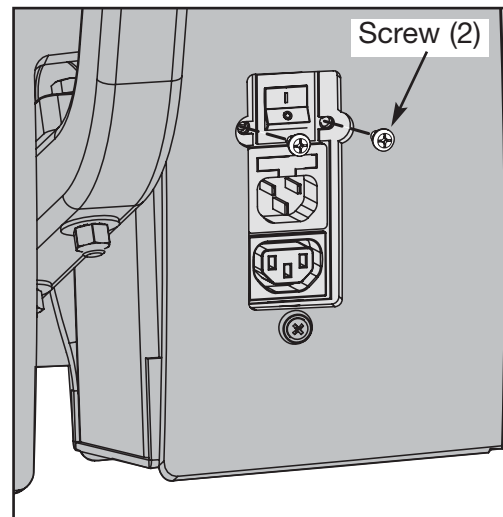

Figure 18
- Using a Phillips head screwdriver, remove the two screws on each side of the power switch. See Figure 18.
- Using a Phillips head screwdriver, attach the two screws removed during step 3A into the power switch. See Figure 18.